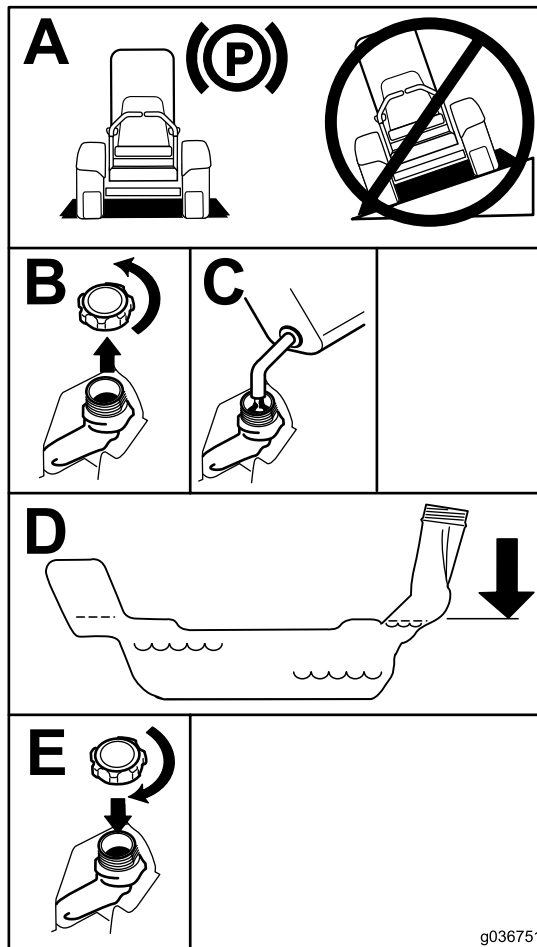

Figure 7
5. Ensure that there is empty space in the tank to allow the gasoline to expand (Figure 7).